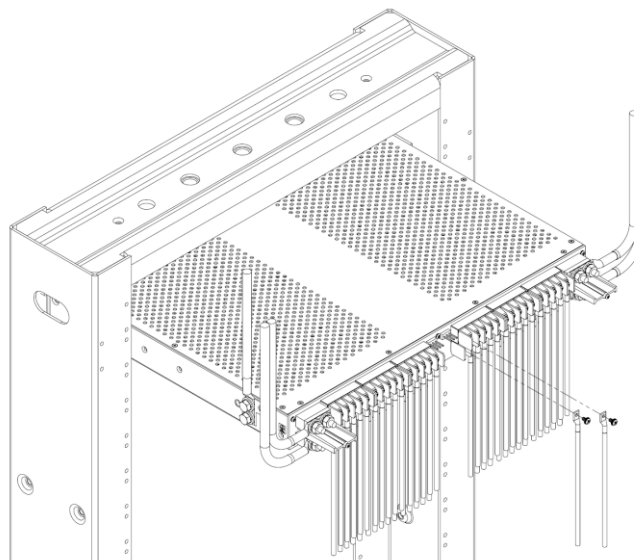

Fig. 2-9: Output lugs
30. If required, lightly coat antioxidant on lugs and output BATT and RTN terminals and then connect lugs to terminals, as shown in Fig. 2-9. (NEC specifies only one lug and load at each output terminal.)